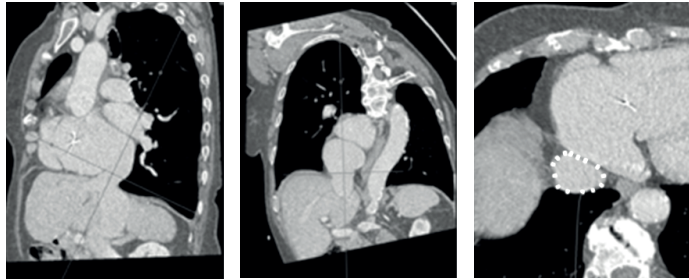

Figure 9: Adjust planes
1. Put the center of line's intersection at the interest point. Repeat for the 3 planes presented in 3D MPR screen (Figure 9).